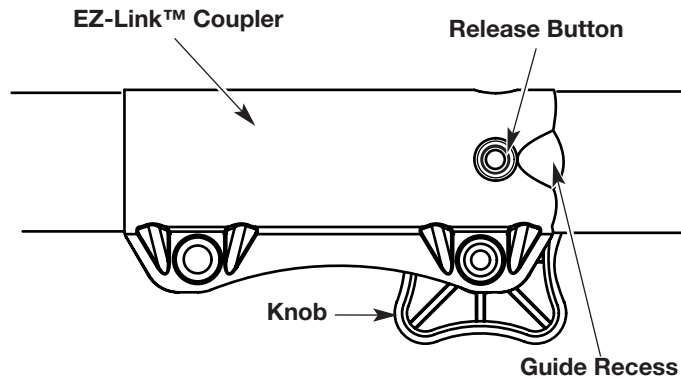

Fig. 23
2. Press and hold the release button (Fig. 23).
- NOTE:** Aligning the release button with the guide recess will help installation (Fig. 23).